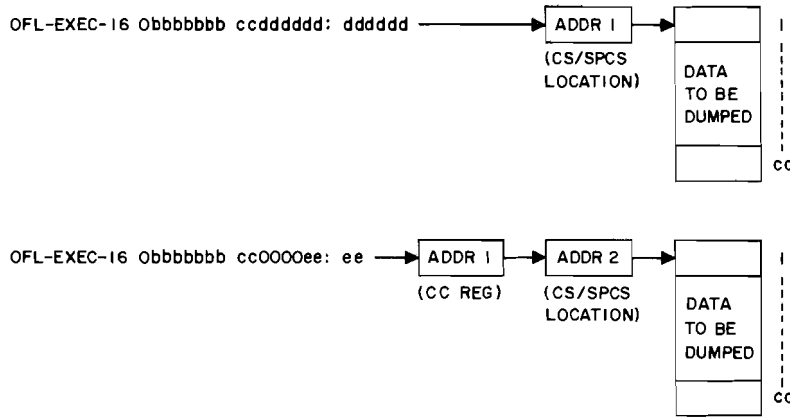

Fig. 2—OFL-EXEC-16 Levels of Indirectness
5.51 When the active CC reaches the specified address (when bbbbbb equals the address in the PAR or IAØR), the match circuitry causes an interrupt, which, in turn, causes either a TWO2 or CCINT output message to be typed containing the contents of the requested CS locations (Fig. 2).